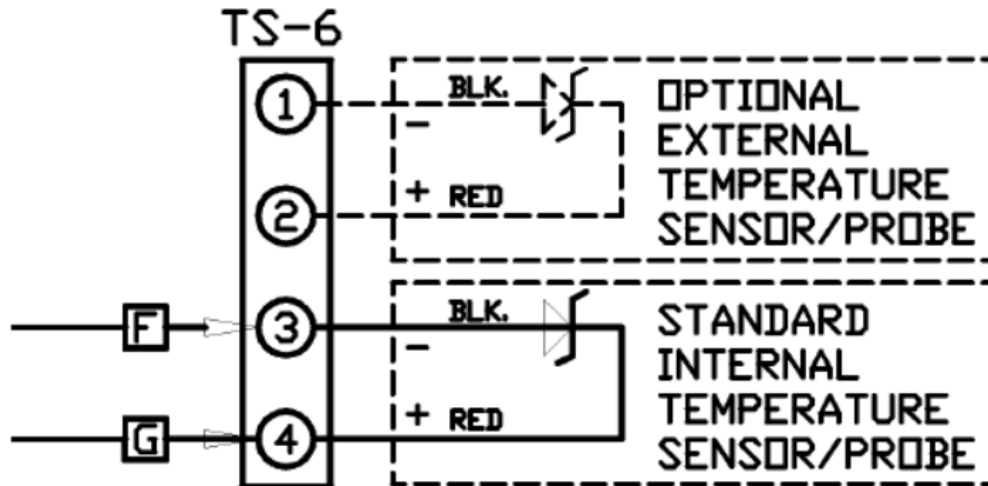

Figure 4 – External Temperature Compensation Connections (A36D Chargers Only)
2. Connect wire marked F to terminal **1** and wire marked G to terminal **2**. Refer to Figure 4.